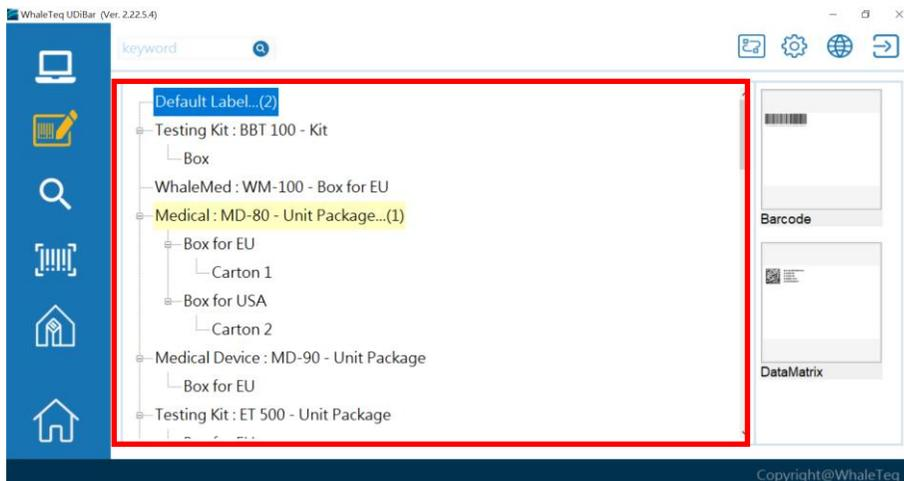

Figure 79: Product packaging and label column
- (2) The page for label editing is shown in figure 79. The left side of figure 79 is the product packaging layer, and the right side is the label column.